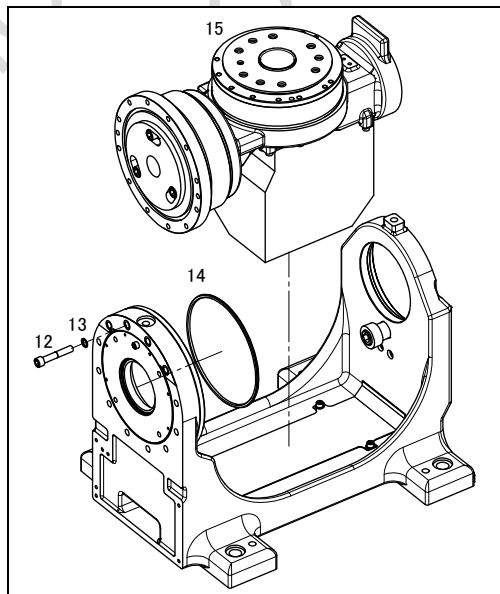

Fig. 6.2 (c) Replacement of the J1-axis reducer 3
- 8 Remove bolts (12) and washers (13) that fix the J1-axis reducer to the J1 base and the washers and remove the J2 unit (15) from the J1 unit (see Fig. 6.2 (c)).